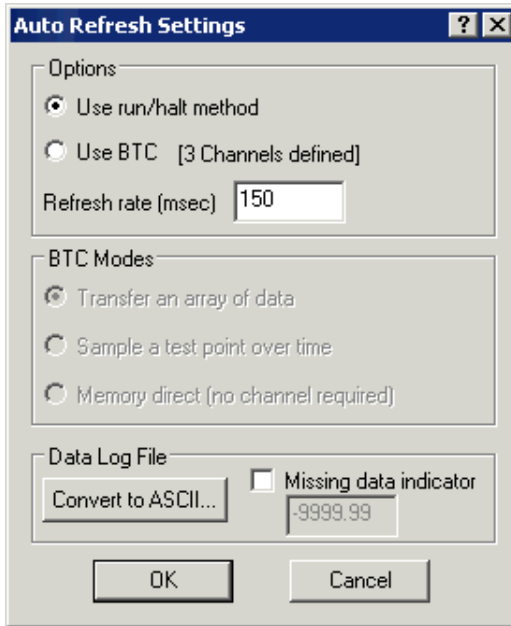

Figure 3-27. Auto Refresh Settings Dialog Box
- Right-click in the FFT In plot window and select **Auto Refresh Settings** to open the **Auto Refresh Settings** dialog box, shown in Figure 3-27.